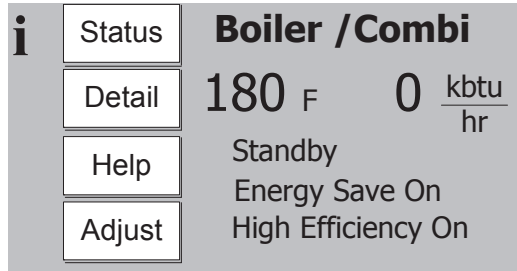
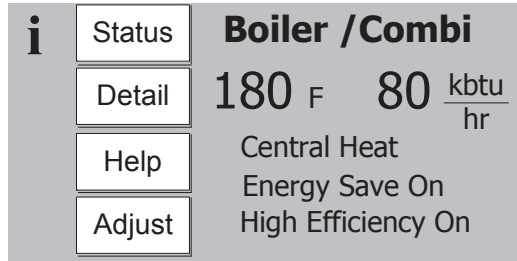

Figure 12.2a: Home Screen at Power-Up (No Call for Heat)
Figure 12.2b: Home Screen on Heat Demand
- 11) Start the boiler using the lighting instructions on page 100. With the boiler powered up, and with no call for heat, the display should look like Figure 12.2a. Once a call for heat is present, it will look like Figure 12.2b.